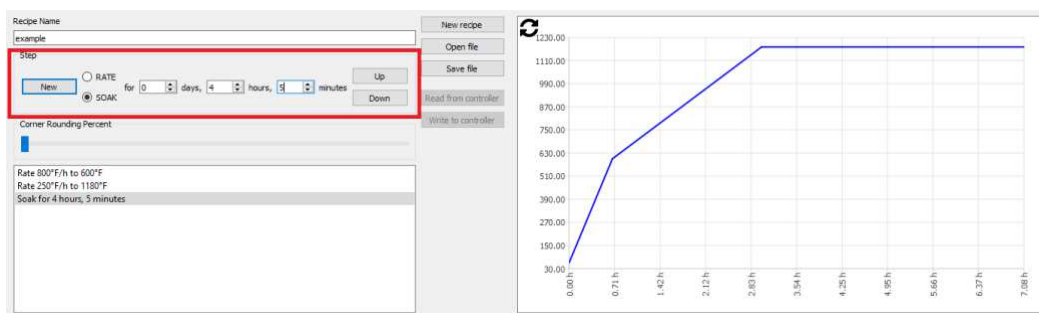

Figure 75: Recipe Editor – 'Soak' Step
- Once you are ready to add a Soak step, make sure you have a “New Step” in the list and then select “Soak” and enter the amount of time your cycle needs to be held at temperature – as is highlighted in Figure 75 on the next page. If your parameters don’t require a controlled cooling step, you can proceed to step 8. Otherwise continue to step 7 to add a cooling step.